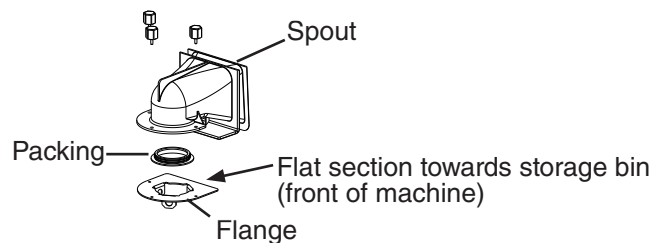

Fig. 8
- 11) Place and align the new extruding head and evaporator flange. See Fig. 8.